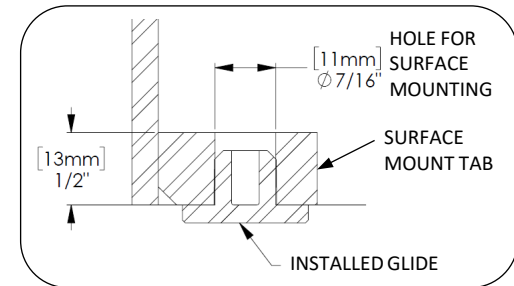

FIG. 2 – ANCHOR TAB SECTION
3. Move unit out of position. Drill holes according to anchor manufacturer's recommendations. Anchors should include enough length for thickness of surface mount tab, see Fig. 2. Maximum washer diameter (if used) is 1".